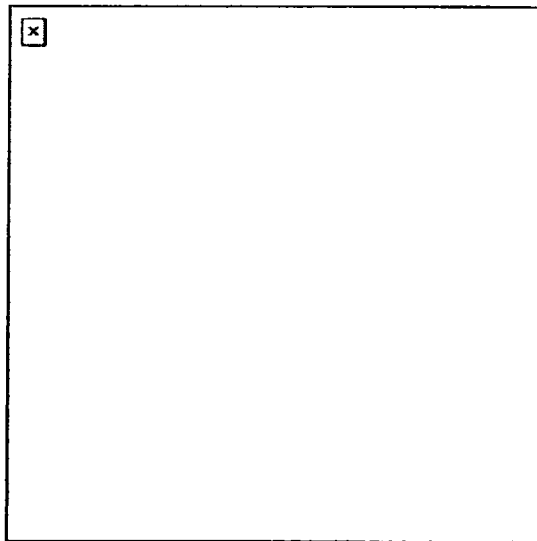

Figure 191-376-4119-1
**Conditions:** You are given a crowd control situation (where the lower levels of force have been ineffective) and orders from the commander to use riot control agents to disperse the crowd; an M33A1, M36, or M37 chemical-agent disperser; a spare agent container and cylinder; cleaning materials; a protective mask with hood; rubber gloves; and access to Technical Manual (TM) 3-1040-262-13&P.
- a. Perform an overall visual inspection of the frame and harness assembly and the M33A1 riot control agent using Figures 191-376-4119-1 and 191-376-4119-2.